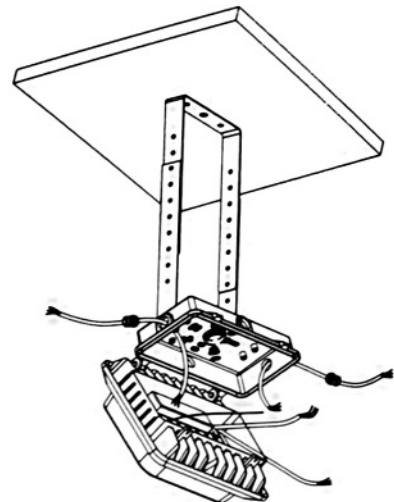

Figure 3-8
8. Use M20 waterproof connector when connecting AC wire or dimming wire, take relevant waterproof measures at both sides of inlet. Figure 3-8